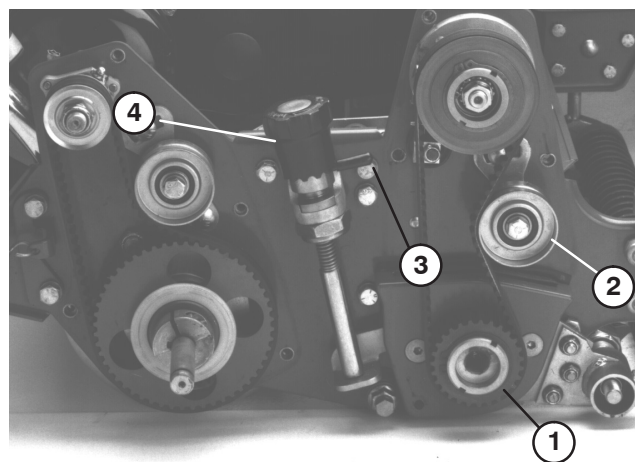

Figure 11
28. Reinstall reel drive cover to sideplate with (4) capscrews previously removed.
29. Check the assembly of the groomer. Rotate both quick up levers to raise the grooming reel into the transport position (Fig. 11). Correct any problems and recheck the assembly.